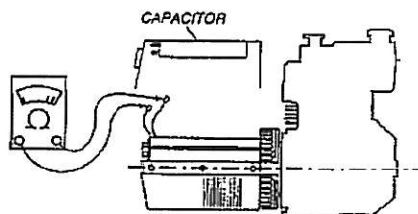

Figure 5-9. Alternator Test 1
- b. Remove capacitor wires and check resistance of auxiliary phase as shown in Figure 5-9. Value shall be 2.0 ohms.